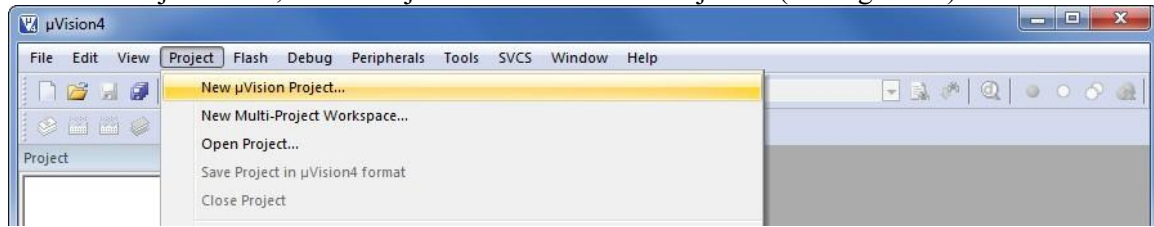

Figure 12
1. In the Project menu, select Project → New uVision Project... (see Figure 12)